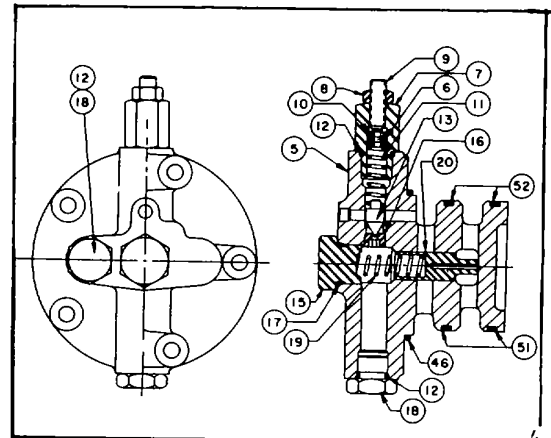

Figure 184.
C. All part reference numbers refer to Fig 184 except as noted.